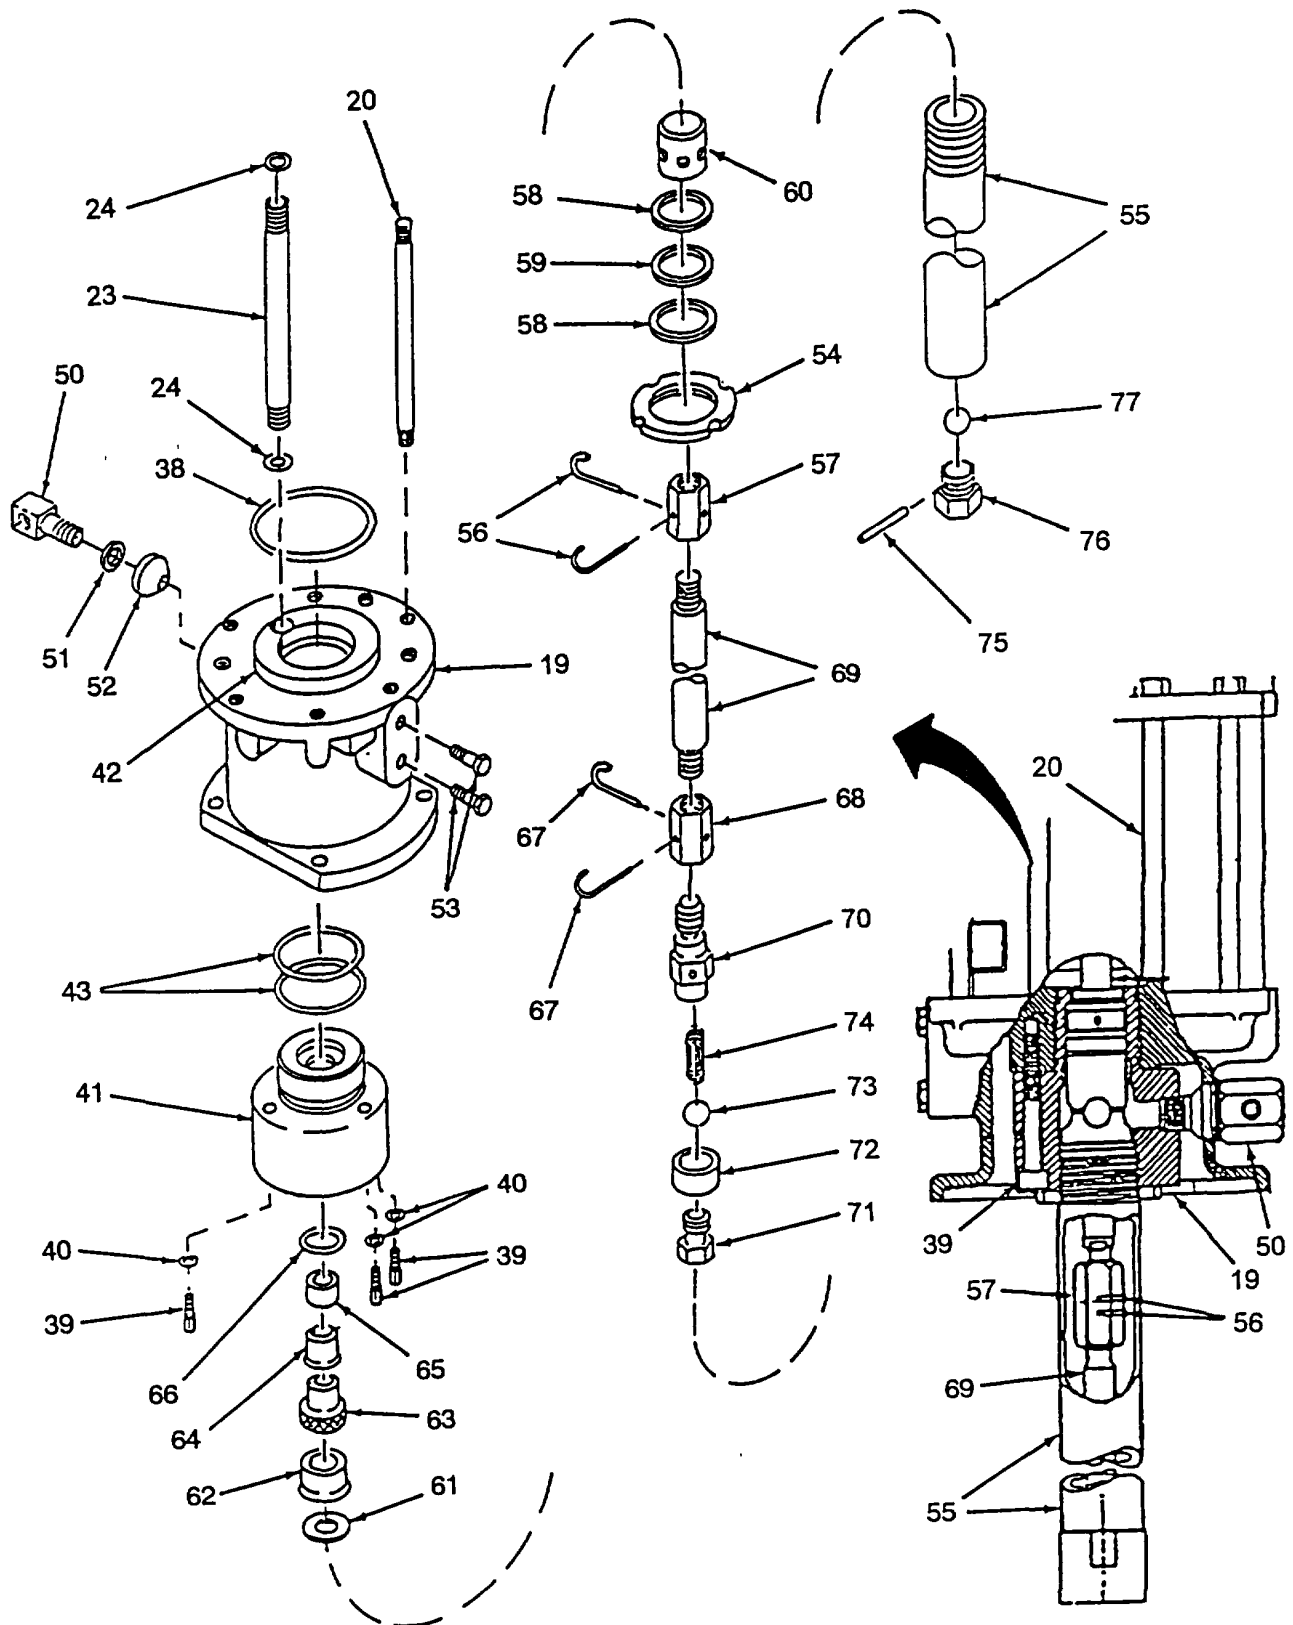

Figure 5-25. Low Pressure Pump (Sheet 2 of 2)
a. Disassembly. (Refer to Figure 5-25).
- (1) Loosen jam nut (54), unscrew pump tube (55) from air motor assembly to expose upper coupler (57).
- (2) Remove upper spring clip (56) from upper coupling (57). Unthread upper coupling (57) from air motor piston rod (26) by rotating entire pump tube assembly.
- (3) Clamp air motor in vise vertically.
- (5) Remove four cap screws (1) from adapter (2) and valve body and stop assembly (3). Lift off adapters (2) and remove o-ring (4). Discard o-ring (4).
- (6) Loosen two set screws (5) and unscrew two caps (6). Remove springs (7) and aluminum gasket (8).